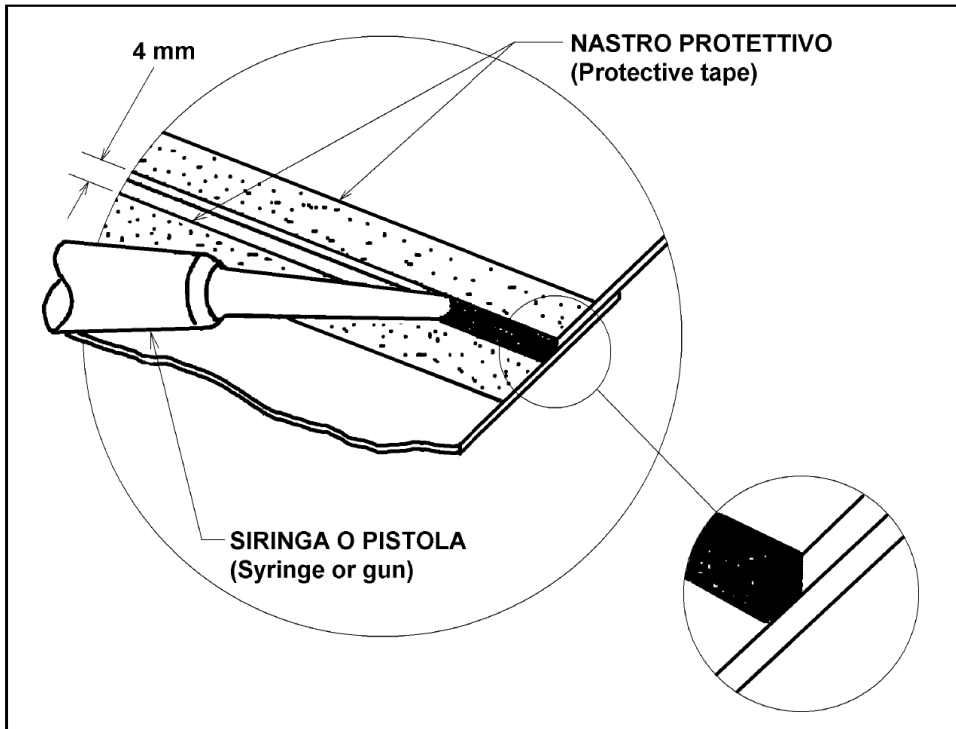
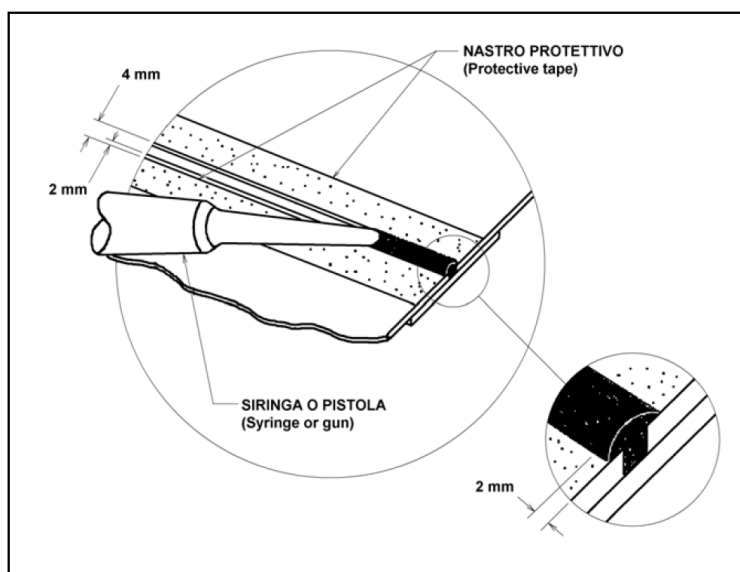

Fig. 9: Bead sealing (overlapping sheets)
Fig. 10: Bead sealing (butt joint)
- c) With a gun or syringe apply (within 10 hours) the sealing compound properly mixed, paying attention not to include air bubbles inside the bead (Fig. 9 and Fig. 10).